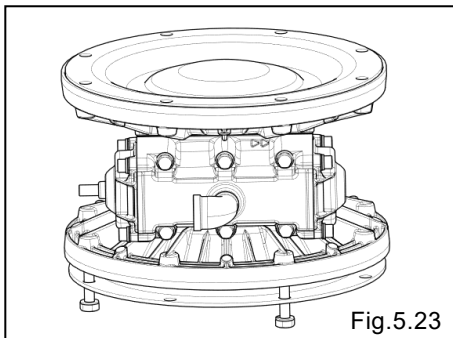
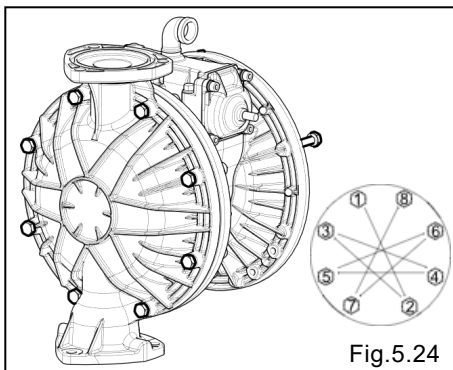

Fig.5.23
Fig.5.24
- When tightening the diaphragm at Fig. 5.20, the holes on the diaphragm should be at the same positions as the 8 (12 on the NDP-80) screw holes on the air-chamber. Basically, those hole positions should be adjusted by rotating the diaphragm clockwise. If it is difficult, move the diaphragm counter-clockwise a little bit to adjust them [Fig.5.23]
- Install the out-chamber to the side where the diaphragm has been put on, as mentioned in the above Fig.5.23. [Fig.5.24].
- Fig.5.24 shows the standard positions of the out-chambers and the valve body assembly. But those positions can be freely changed, depending on how and where the pump will be installed.